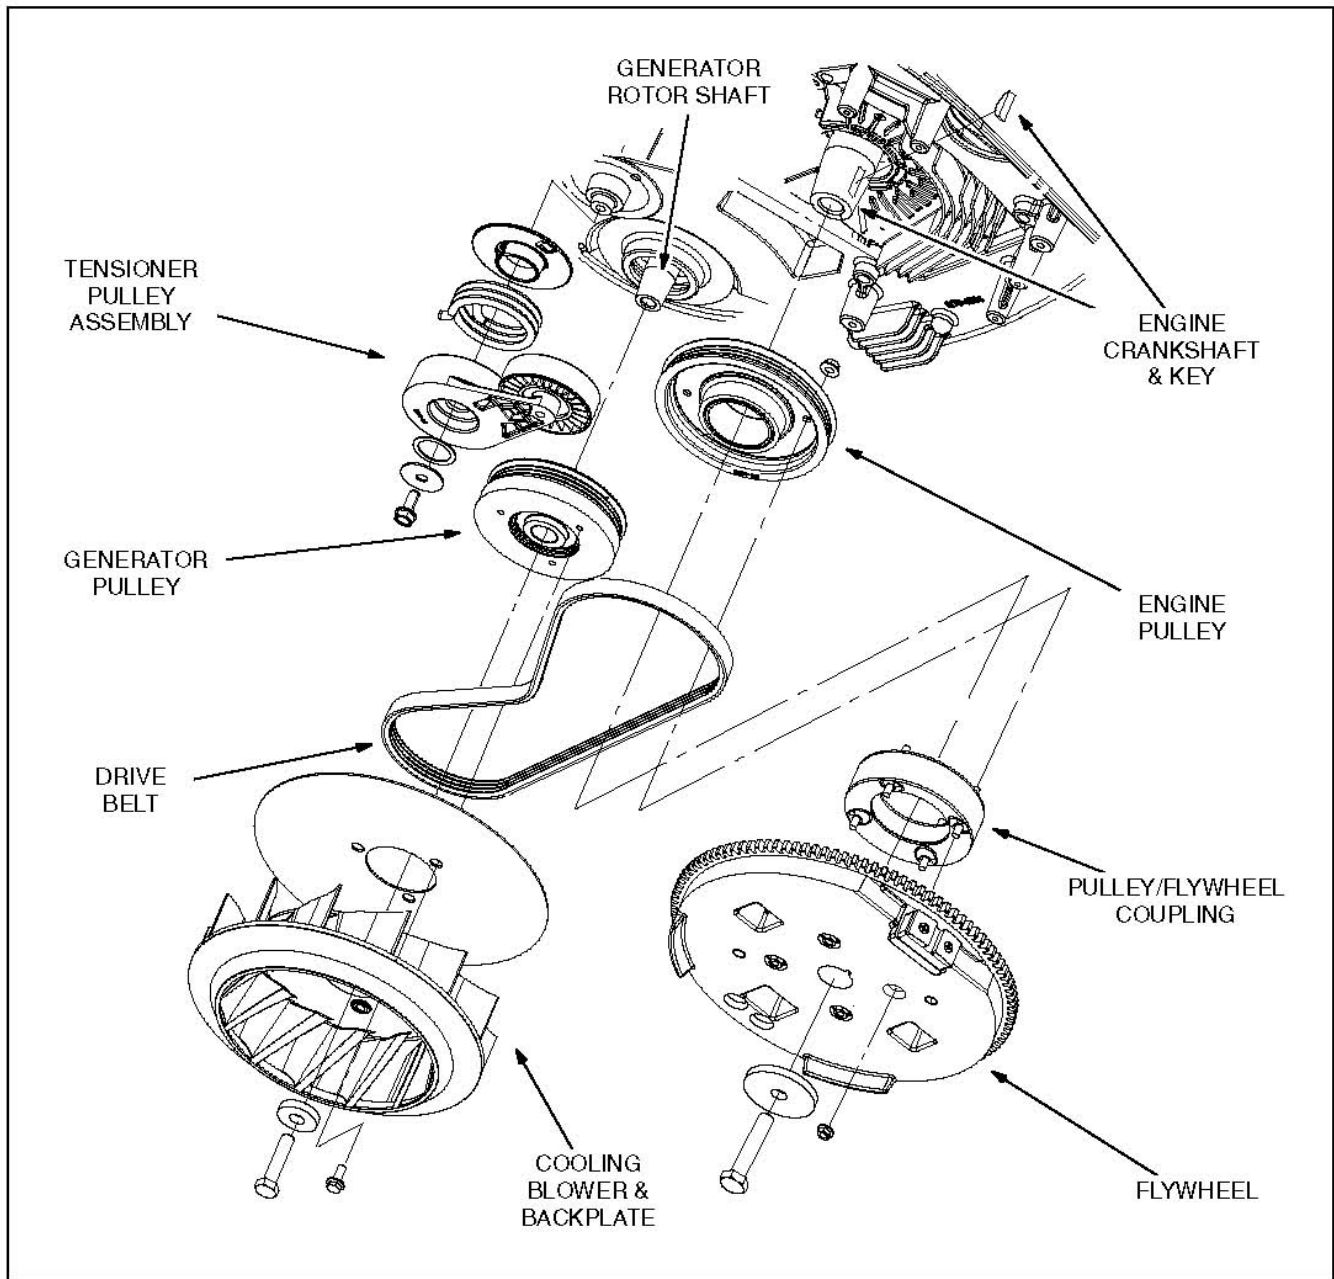

FIGURE 31. BELT DRIVE
The engine drives the alternator by means of a 4-rib "Poly-Vee" belt (Figure 31). The engine pulley is coupled to the engine side of the flywheel, which is center-bolted and keyed to the engine crankshaft taper. The cooling fan and backplate are bolted directly to the alternator pulley, which is center-bolted to the alternator rotor shaft taper. The various alternator/engine speed combinations tabulated in the Specifications section are obtained by using various pulley ratios.
3. Remove the three bolts securing the fan (blower) and its back plate (Figure 31) and remove them from the pulley.
4. Remove the four nuts in the face of the flywheel that secure the pulley coupling to the flywheel (Figure 31). (Otherwise, it will be necessary to remove the alternator pulley to seat the belt back on both pulleys.)